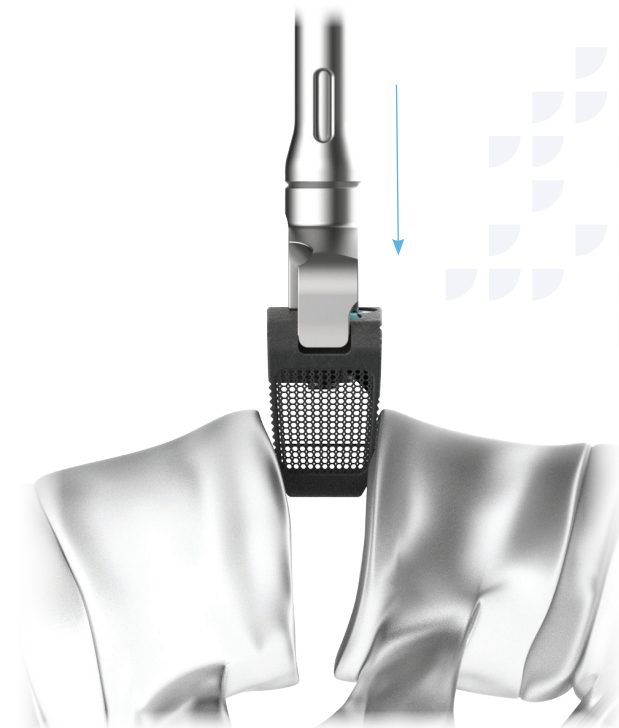

Figure 24
- Reattach the cage inserter to the cage and attach either the inline handle or slap hammer, if desired, to the cage inserter and proceed to remove (Figure 24).